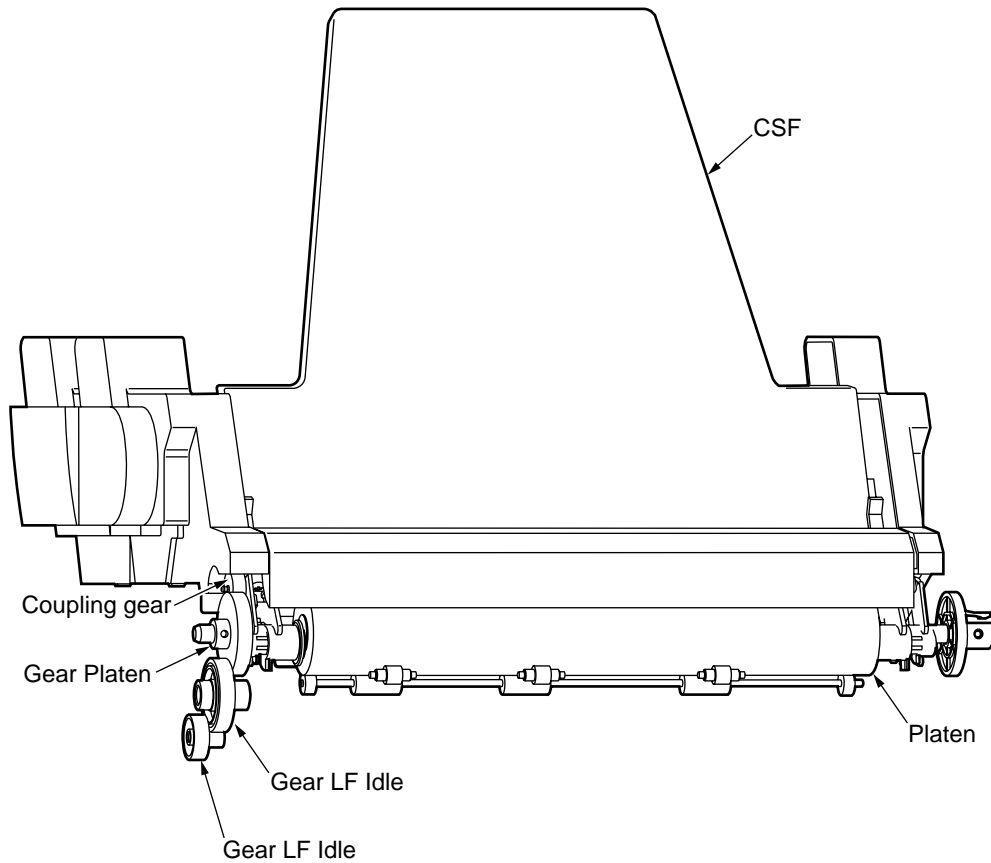

Figure 2-14
(8) Cut-sheet feeder unit operation (option)(See Figure 2-14.)